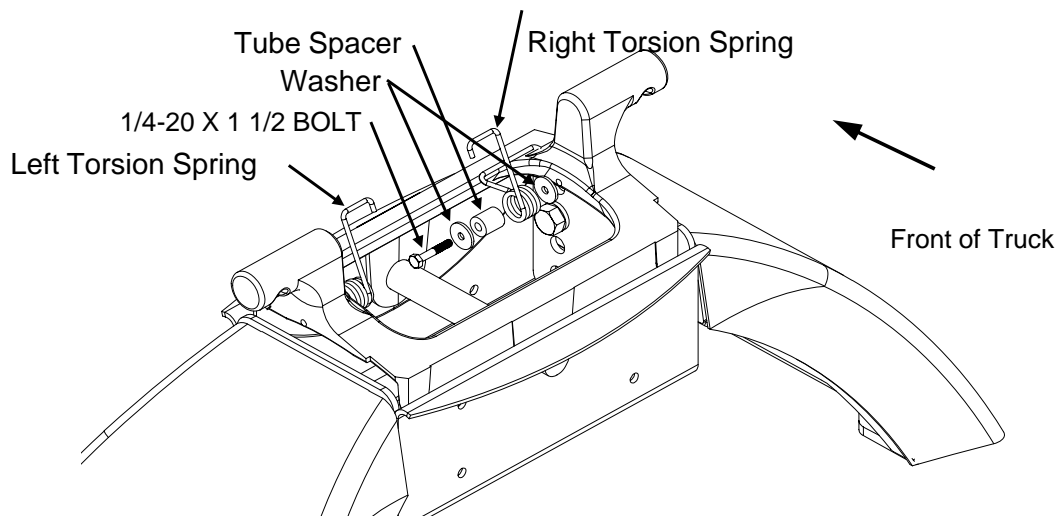

Figure 12: Torsion Spring Assembly
10. If not already installed the Left hand and Right hand torsion springs will need to be added to the center section so that the coil is facing the rear of the truck and wide hook sits over casting as shown in Figure 12. Tighten 1/4-20 X 1 1/2 BOLT with 7/16 socket to 8 ft.lbs.